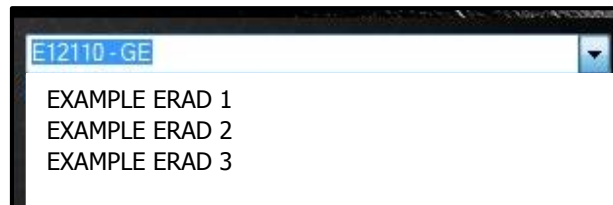

Figure 6.6-1: Select an E-RAD
1. Select the E-RAD Tool from which the Data Log came from (Figure 6.6-1).